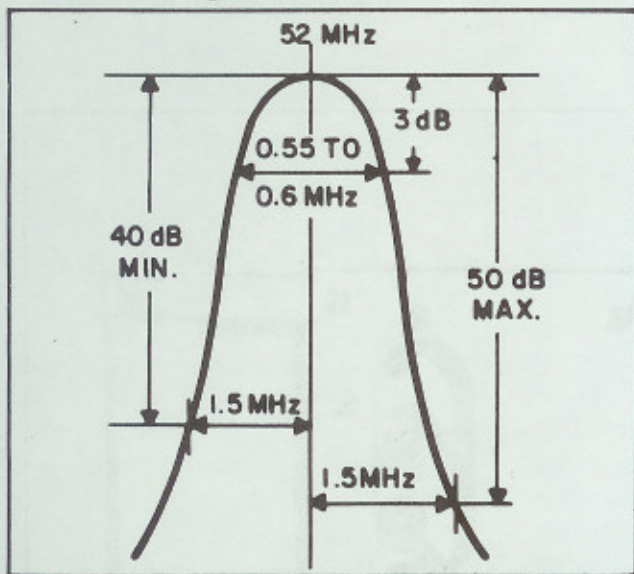

Fig. 5-5. Response of I-F Amplifier at Test Point No. 2
14. Adjust L214, L215, and C211 for maximum response at 52 MHz (Fig. 5-5). Use a hexagonal alignment tool similar to General Cement No. 8606 for the inductors and a Walsco No. 2519 tool for the trimmer.
16. If a response similar to that shown in Fig. 5-5 cannot be obtained with the adjustments in steps 14 and 15, C201, C202, C205, and C214 may be adjusted; however, since these trimmers affect the input match of the amplifier, they should be disturbed only as a last resort. If one or more of these trimmers is obviously misaligned, adjust one at a time, being careful to return the adjustment screw to its original position if no improvement on the response is seen.